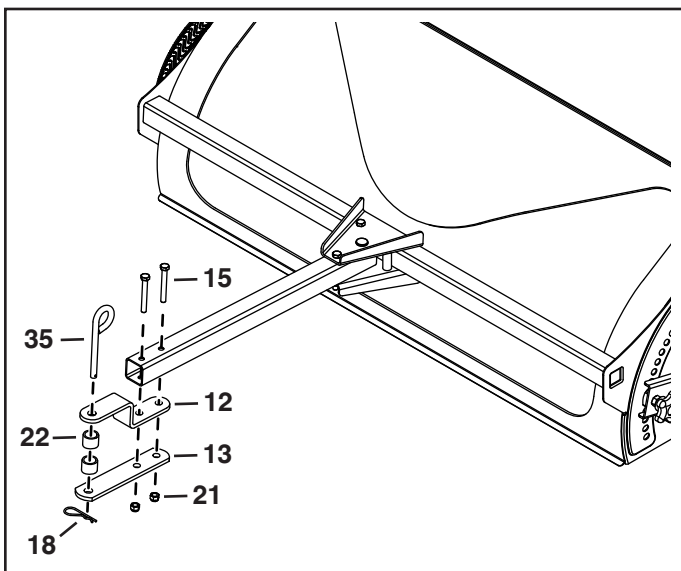

FIGURE 6
STEP 6: (SEE FIGURE 6)
- Attach the hitch bracket (12) and straight hitch bracket (13) to the drawbar using two 5/16" x 2-1/2" hex bolts (15) and 5/16" nylock nuts (21).
- Assemble the hitch pin (35) and two spacers (22) to the hitch brackets. Secure them in place with the large 3/32" hairpin cotter (18).